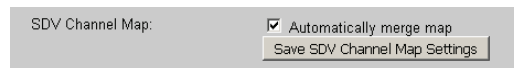

Figure 13-6: Merge SDV Maps
2. Scroll to the **SDV Channel Map** section, Figure 13-6.